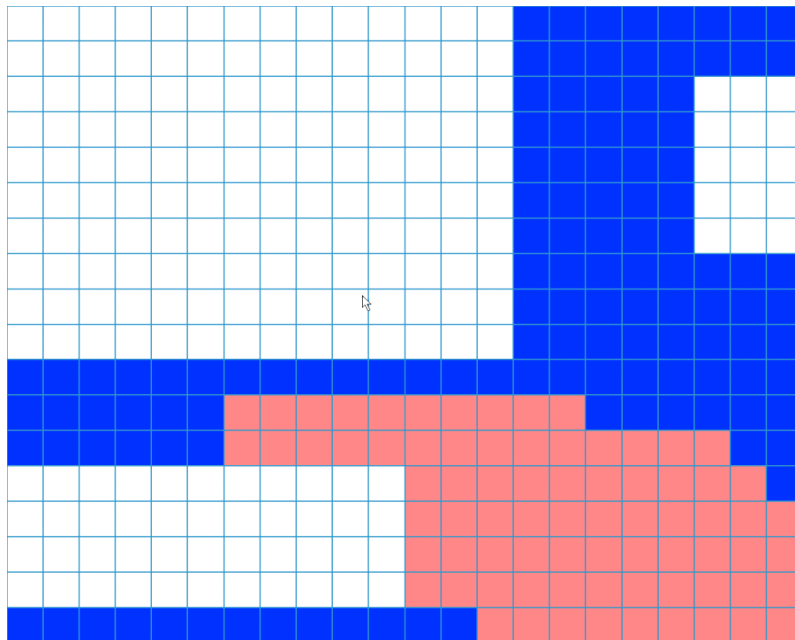

Figure 4-30
- Test: Click it to test current motion detect setup (do not need to save). Click Select button after Region, you can set motion detect area. The default setup is whole region. The blue zones are the selected area. Please set sensitivity and click Test button, you can see system only display motion detect status of the blue area. The red flashing area is current motion detect. See Figure 4-30.